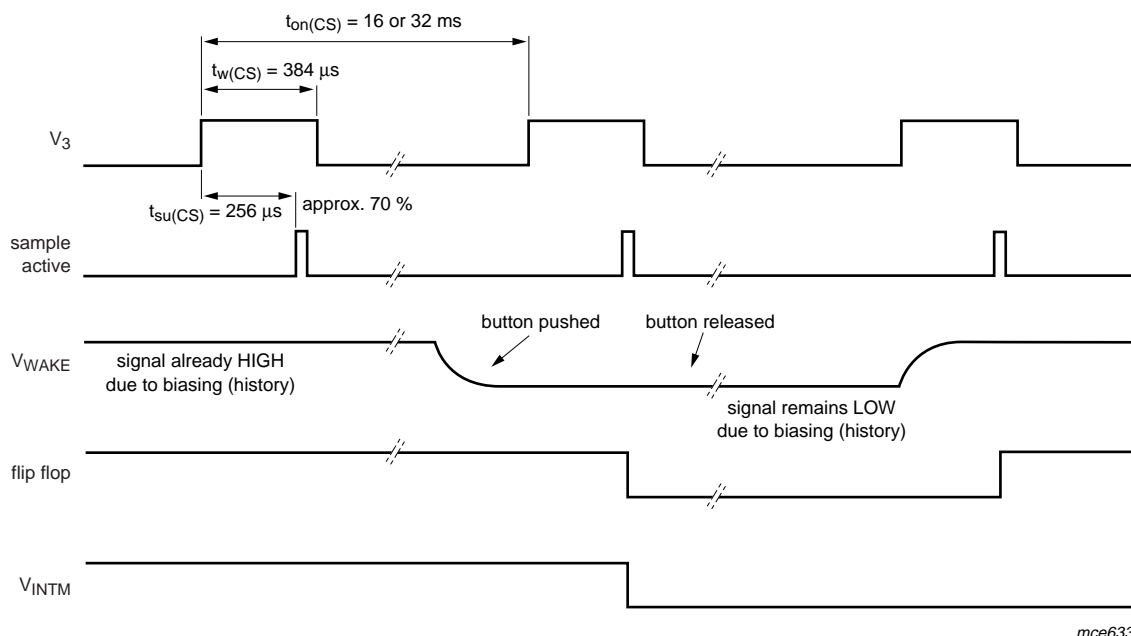

Fig.12 Pin WAKE, cyclic sampling via V3.
- Sampling synchronised to the cyclic behaviour of V3 if the bit is set logic 0 (see Fig.12). This is to save bias current within external switches in low-power operation. Two repetition times are possible: 16 and 32 ms.